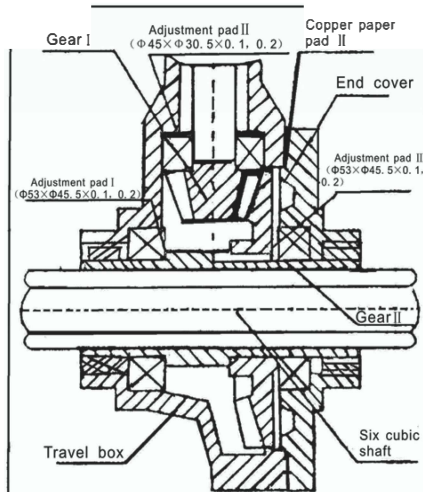

Figure 11: schematic diagram of bevel gear structure travel box
2. Clearance adjustment of mesh of the gear in the running case.(See Figure 11)